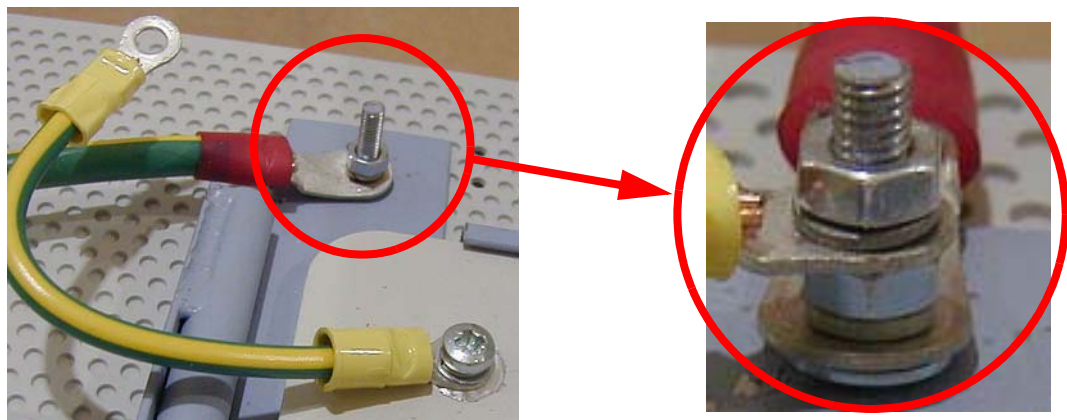

Figure 2-24 Monitor Grounding Wire
- 2.) Connect the ground cable and the ground wire jumper to the ground stud on the monitor handle bracket as shown in Figure 2-24.